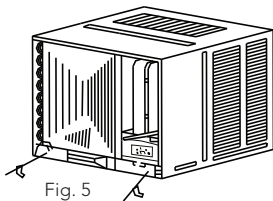

Fig. 5
- 1 Remove the fixing screw on the chassis fixing bracket, then remove the chassis fixing bracket (See Fig.5).
- 4 Reinstall the chassis fixing bracket removed earlier (See Fig.5).